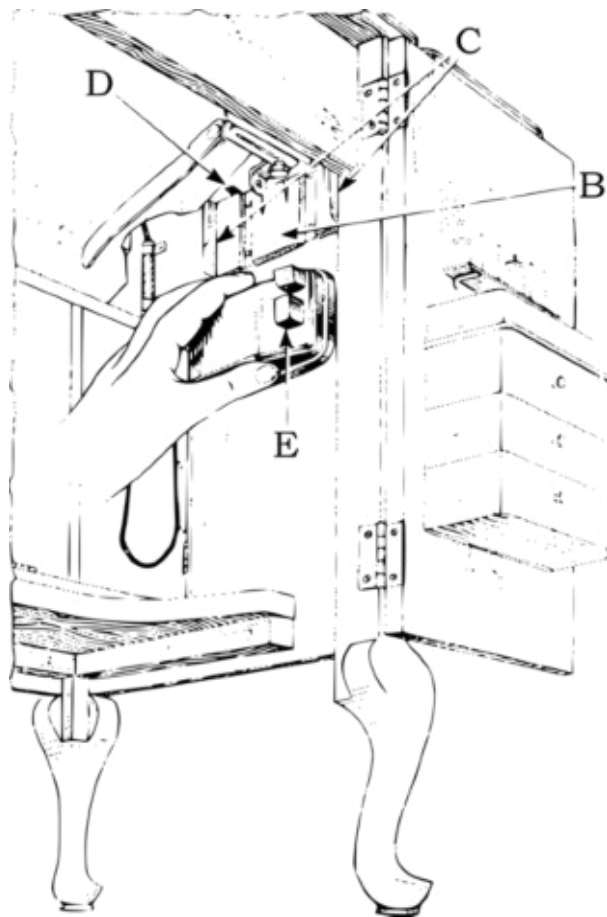

FIG. 5. PLACING BAKELITE CONTROLLER IN CABINET 48 FOR KNEE CONTROL
Insert the controller upward into the holder (B) with the pedal (E) toward you and the base of the controller in the side guides (C). Push up the controller until it rests against the stops (D), only one of which is visible in Fig. 5.